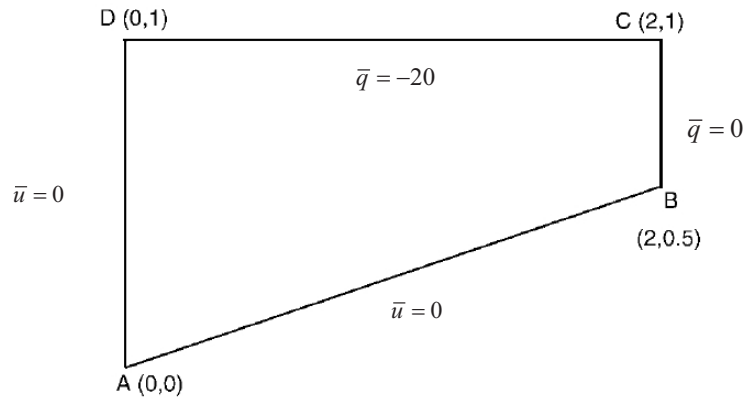

Figure 1
- To test the performance of the program, consider the heat conduction problem depicted in Figure 1. The coordinates are given in meters. The conductivity matrix is isotropic, with  $\boldsymbol{\kappa} = \kappa \begin{bmatrix} 1 & 0 \\ 0 & 1 \end{bmatrix}$ , and  $\kappa = 10 \text{ W}/^\circ\text{C}$ . The temperature  $u = 0$  is prescribed along edges AB and AD. The heat fluxes  $\mathbf{q} \cdot \mathbf{n} = 0$  and  $\mathbf{q} \cdot \mathbf{n} = 20 \text{ W}/\text{m}$  are prescribed on edges BC and CD, respectively. A constant heat source  $f = 4 \text{ W}/\text{m}^2$  is applied over the plate.